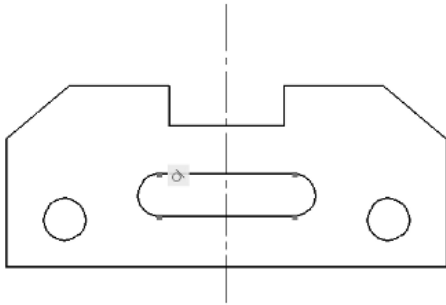

Figure 11-18 Sketch after applying the tangent constraint
8. Select a line; the tangent constraint will be applied at one end of the line and also, the tangent symbol will be displayed, as shown in Figure 11-18.